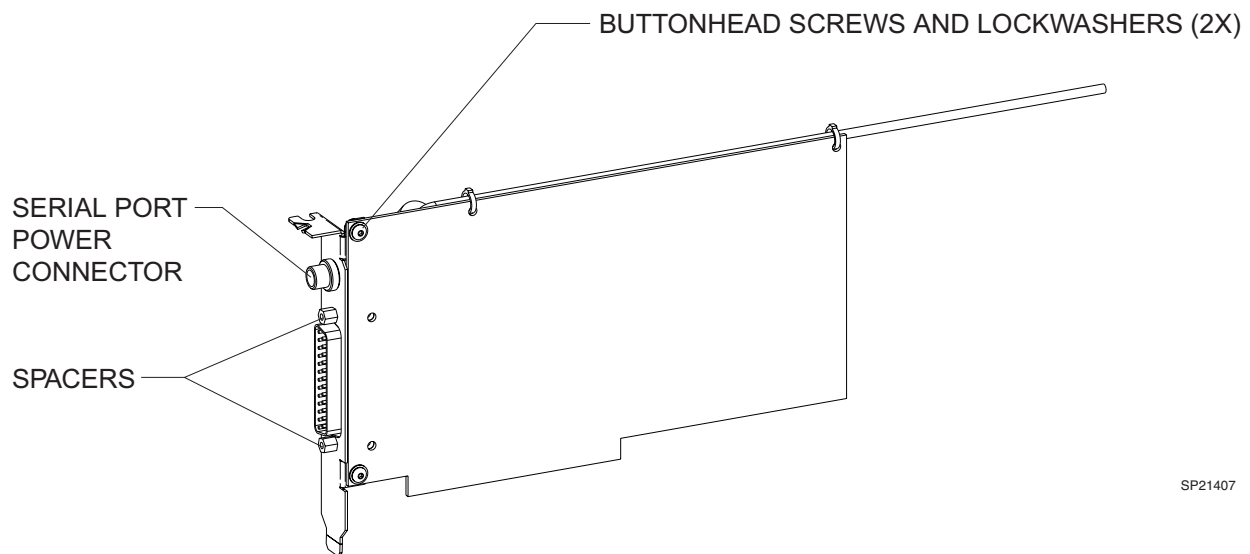

FIGURE 7. System I/O Components
- 6.10 Note the locations and orientation of the components attached to the PCB mounting bracket, then remove the Serial Port Power connector and thumbscrew spacers from the System I/O bracket. If applicable, also remove and discard the button head screws and washers securing the System I/O PCB to its bracket. See Figure 7.